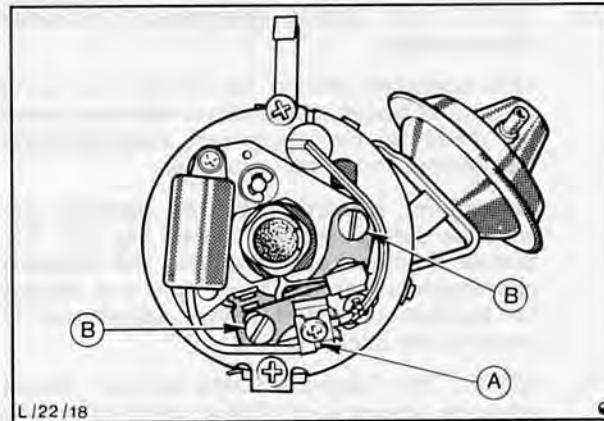

Fig. 54. Contact breaker points removal (Motorcraft distributor)
4. Remove contact breaker points, Fig. 54, as follows: